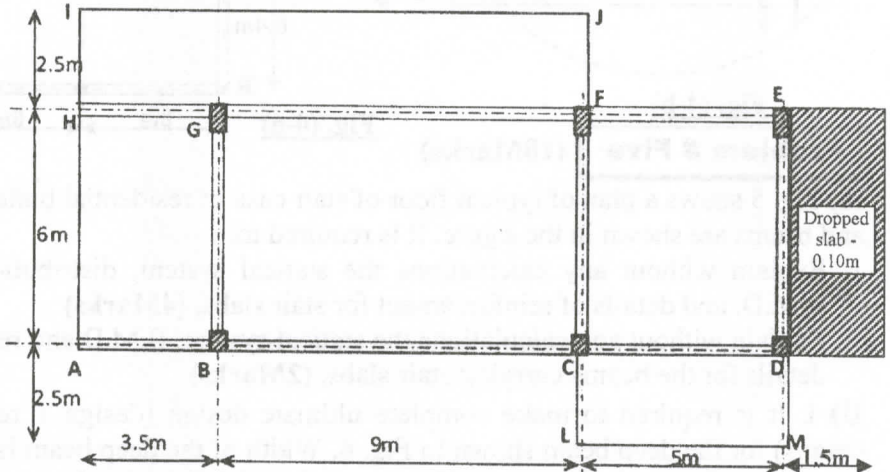

Fig. 2
- Fig. 2 shows a structural plan of roof supporting on five projected beams and six columns. The cross-section of all supporting beams is $250 \times 800\text{mm}$. System of hollow-block slab is required. The hatched slab area is dropped 100mm. The live load, L.L is 6kN/m^2 and flooring cover is 1.5kN/m^2 . It is required to: